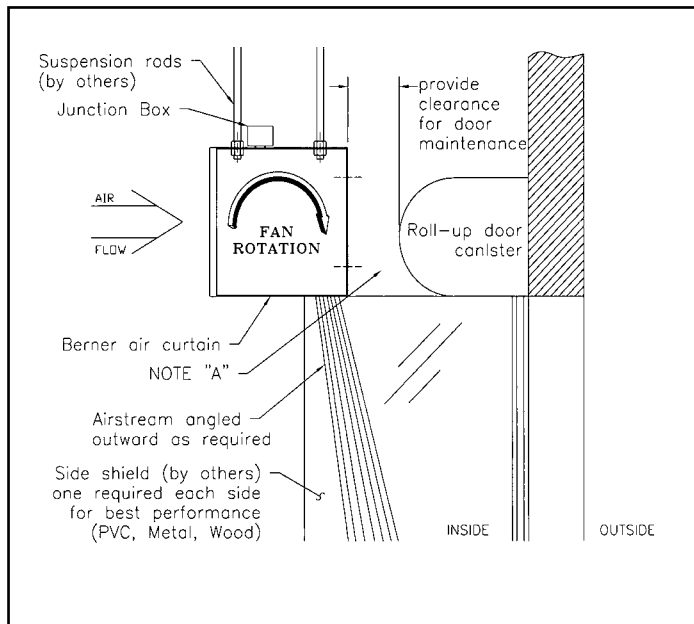

FIGURE 1 - Roll-Up Door
- B. **IMPORTANT** See Figures 1-6. The unit should be mounted level with the top of the door opening or level with the side of the opening (for vertical mount). The outlet nozzle shall be located no more than 1" above the top/side of the opening. If the air curtain must be mounted higher, then it must be spaced out from the wall $\frac{3}{8}$ " for every inch the unit is above the opening (4.5" per foot). If the unit is mounted 6" or more away from the opening, side shields are recommended See Figure 1.